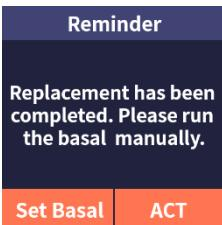

Figure 11.9
(8) Replacement has been completed, please run the basal manually, click "Set Basal" to open the basal setting interface to set the basal; or click "ACT" to exit (as shown in Figure 11.9).